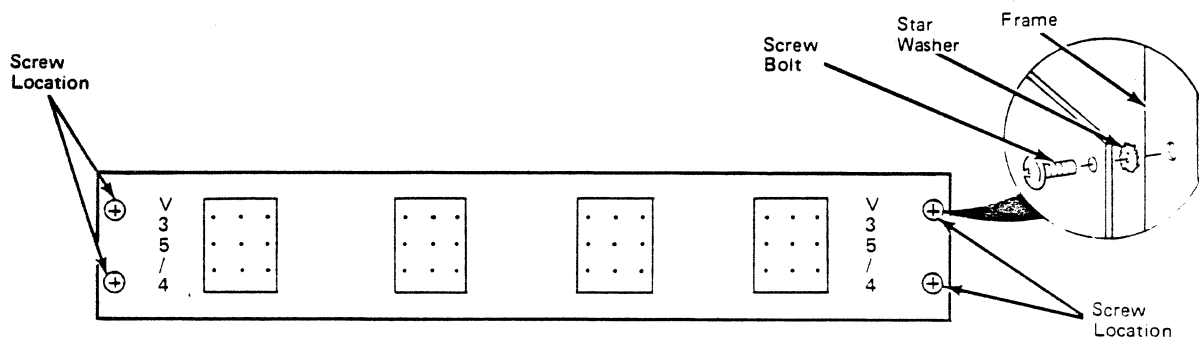

Figure 9-13. Screw Locations for V.35 I/O Panels
- Remove the four screws that secure the I/O panel to the I/O panel frame (Figure 9-13).